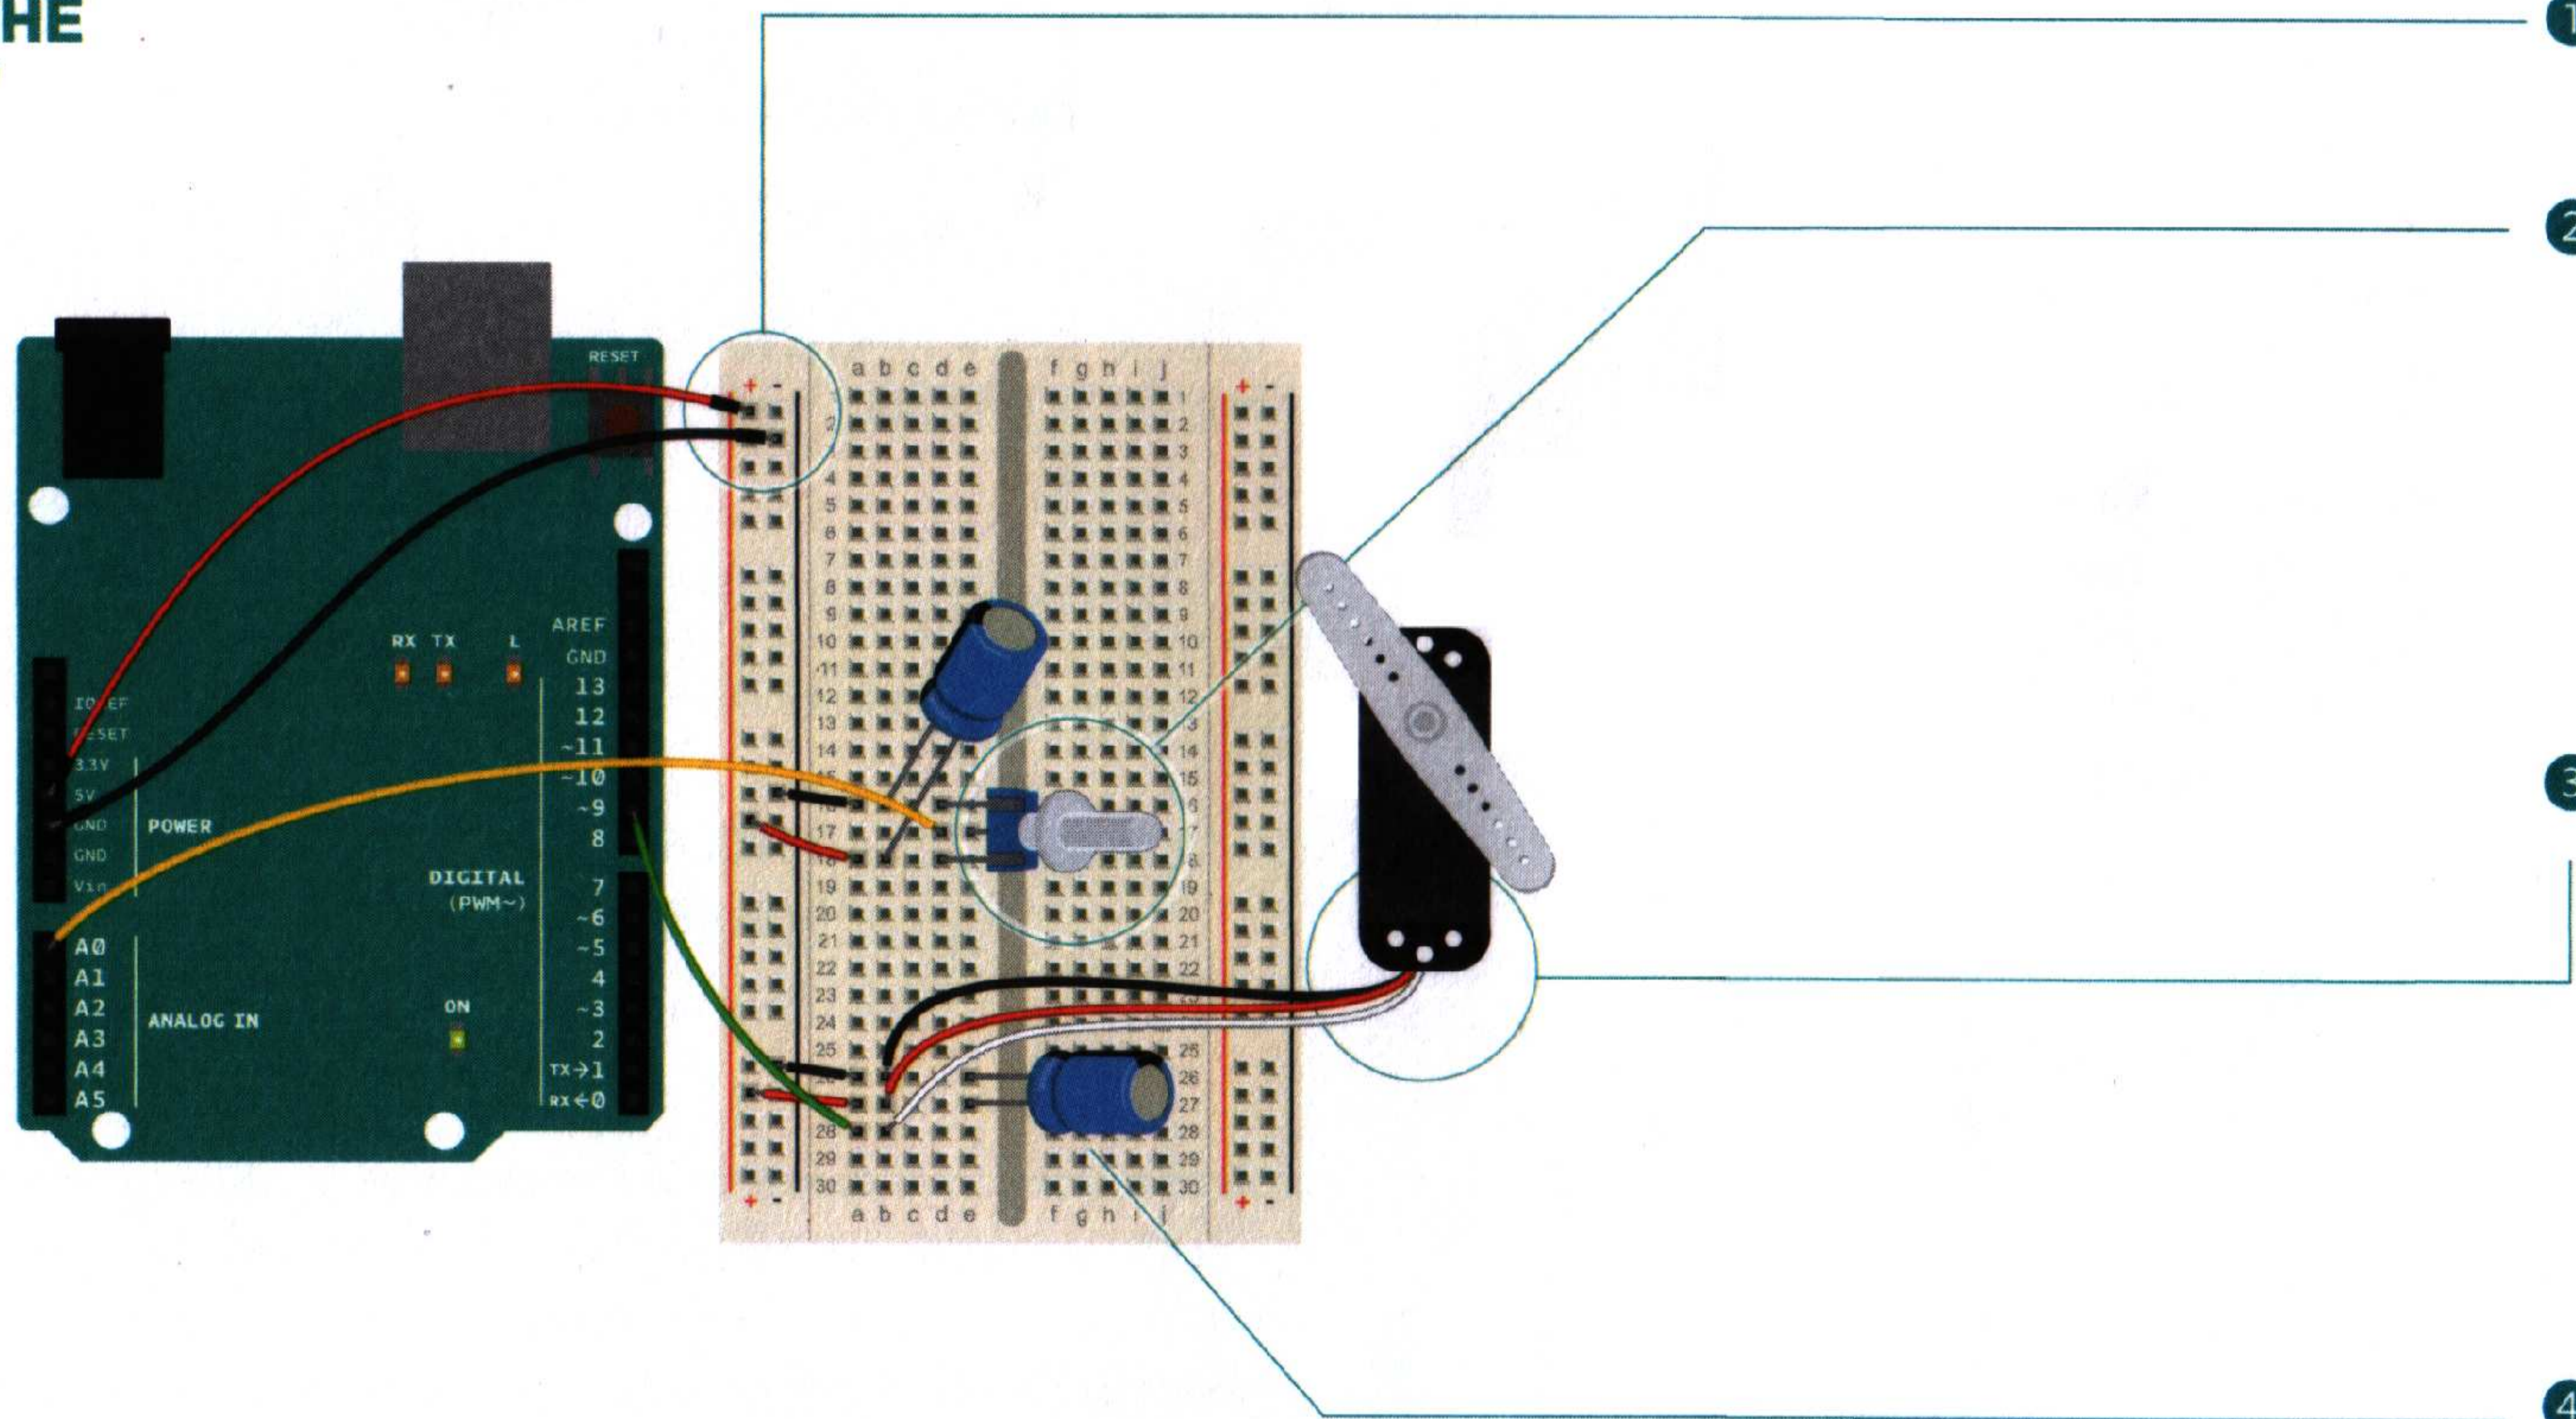

Fig. 1
- 4 When a servo motor starts to move, it draws more current than if it were already in motion. This will cause a dip in the voltage on your board. By placing a 100µF capacitor across power and ground right next to the male headers as shown in Fig. 1, you can smooth out any voltage changes that may occur. You can also place a capacitor across the power and ground going into your potentiometer. These are called *decoupling capacitors* because they reduce, or decouple, changes caused by the components from the rest of the circuit. Be very careful to make sure you are connecting the cathode to ground (that's the side with a black stripe down the side) and the anode to power. If you put the capacitors in backwards, they can explode.